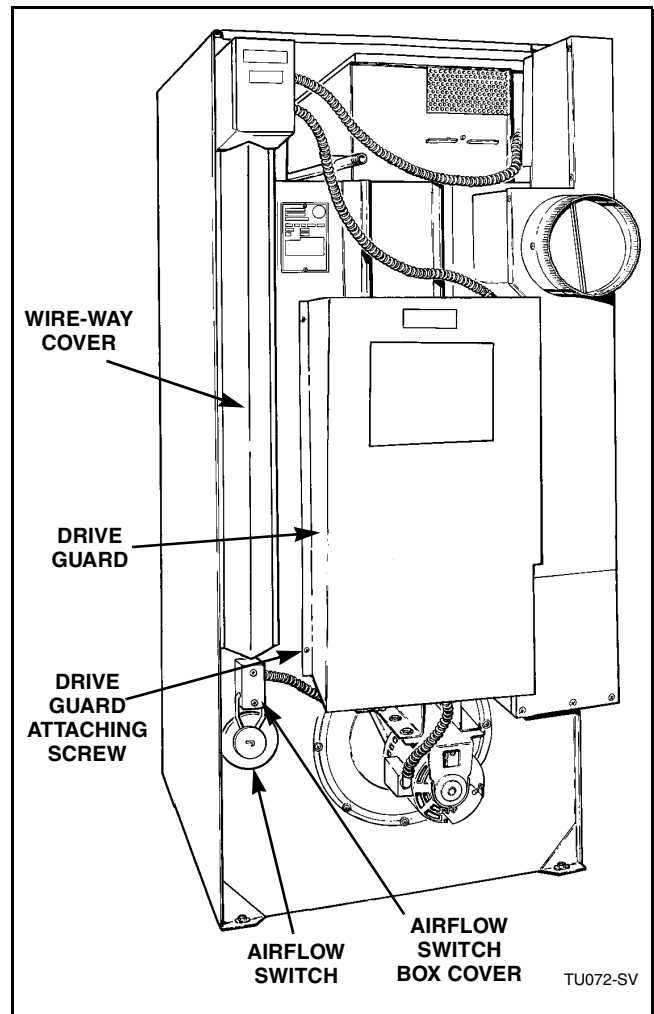

Figure 28
- Remove airflow switch box cover. Refer to *Figure 28*.
Refer to *Figure 28*.
- a. Support drive guard and remove screws holding guard to rear of tumbler. Refer to *Figure 28*.
- a. Support chain guard and remove screws holding guard to rear of tumbler. Refer to *Figure 28*.
- g. Support drive guard and remove screws holding guard to rear of tumbler. Refer to *Figure 28*.